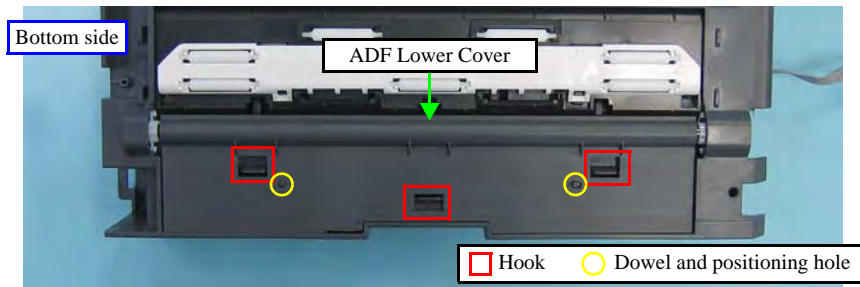

Figure 4-134. Removing the ADF PF Roller (1)
- When installing the ADF Lower Cover, match the positioning holes and the dowels (x2) as shown in Figure 4-134.